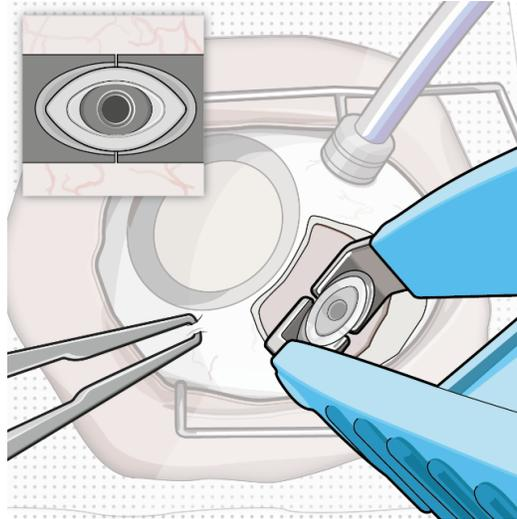

Figure 7
- Use the contoured tips of the explant tool to gently grasp underneath the long axis of the implant flange (Figure 7).